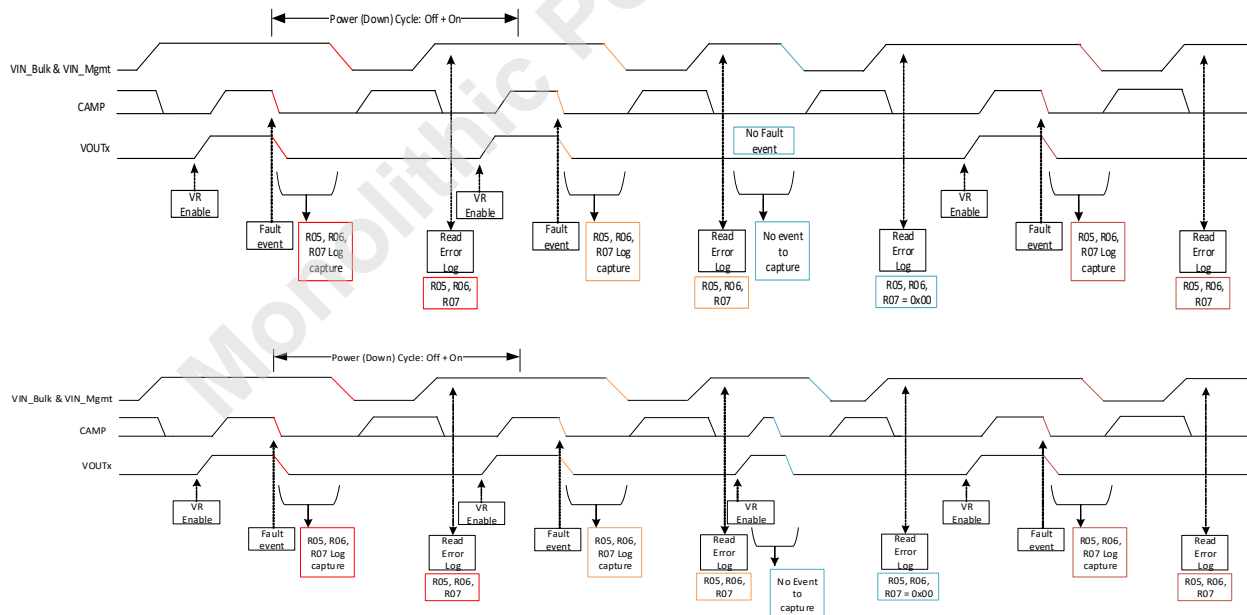

Figure 35 — Error Log (R05 to R07) Registers Behavior with Power Cycle
- The host can clear the status registers and associated MTP by writing the code 0x74 in Table 162, Register 0x39. See Figure 35 for illustration. The top waveform illustrates how PMIC captures Error Log Registers (R05 to R07) when there is a fault and how PMIC reports error log registers when PMIC goes through power down cycle. The bottom waveform illustrates same as top waveform with one exception. It shows no fault condition when CAMP is asserted to turn off switch regulator outputs with power down sequence.